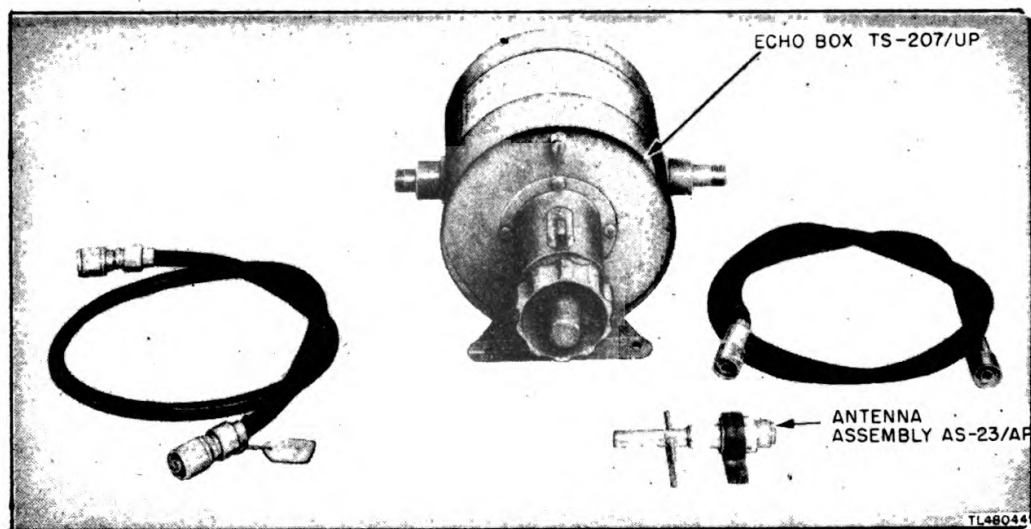

Figure 1. Echo Box TS-207/UP and associated parts.
4. ECHO BOX TS-207/UP (fig. 1).